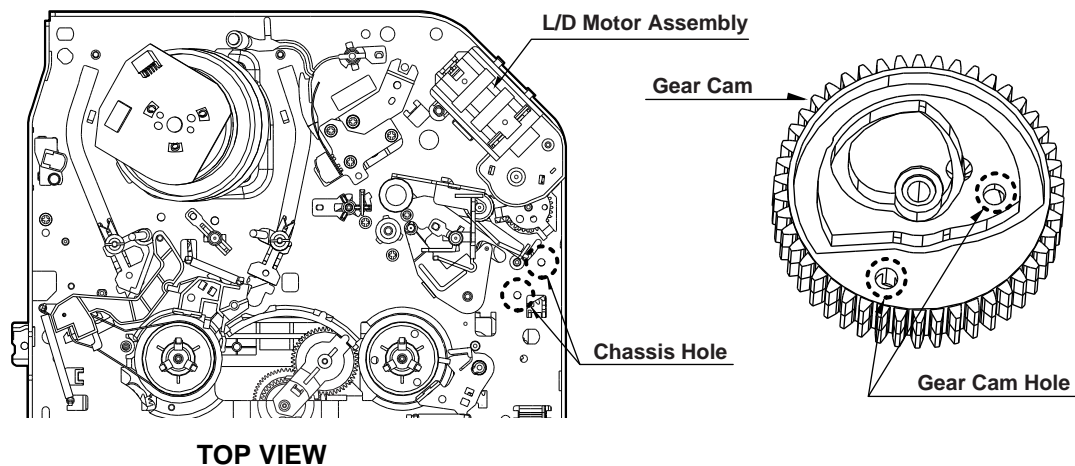

Fig. C-2
3) IF not, rotate the Shaft of the Loading Motor to either Clockwise or Counterclockwise until the Alignment is as below Fig. C-2.